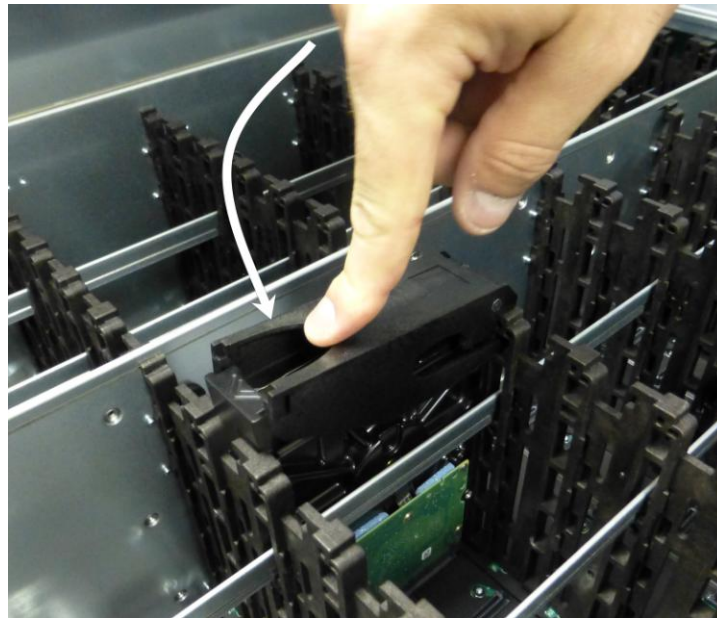

Figure 28. **Closed HDD Carrier Handle**
2. Close HDD carrier handle (Figure 28).